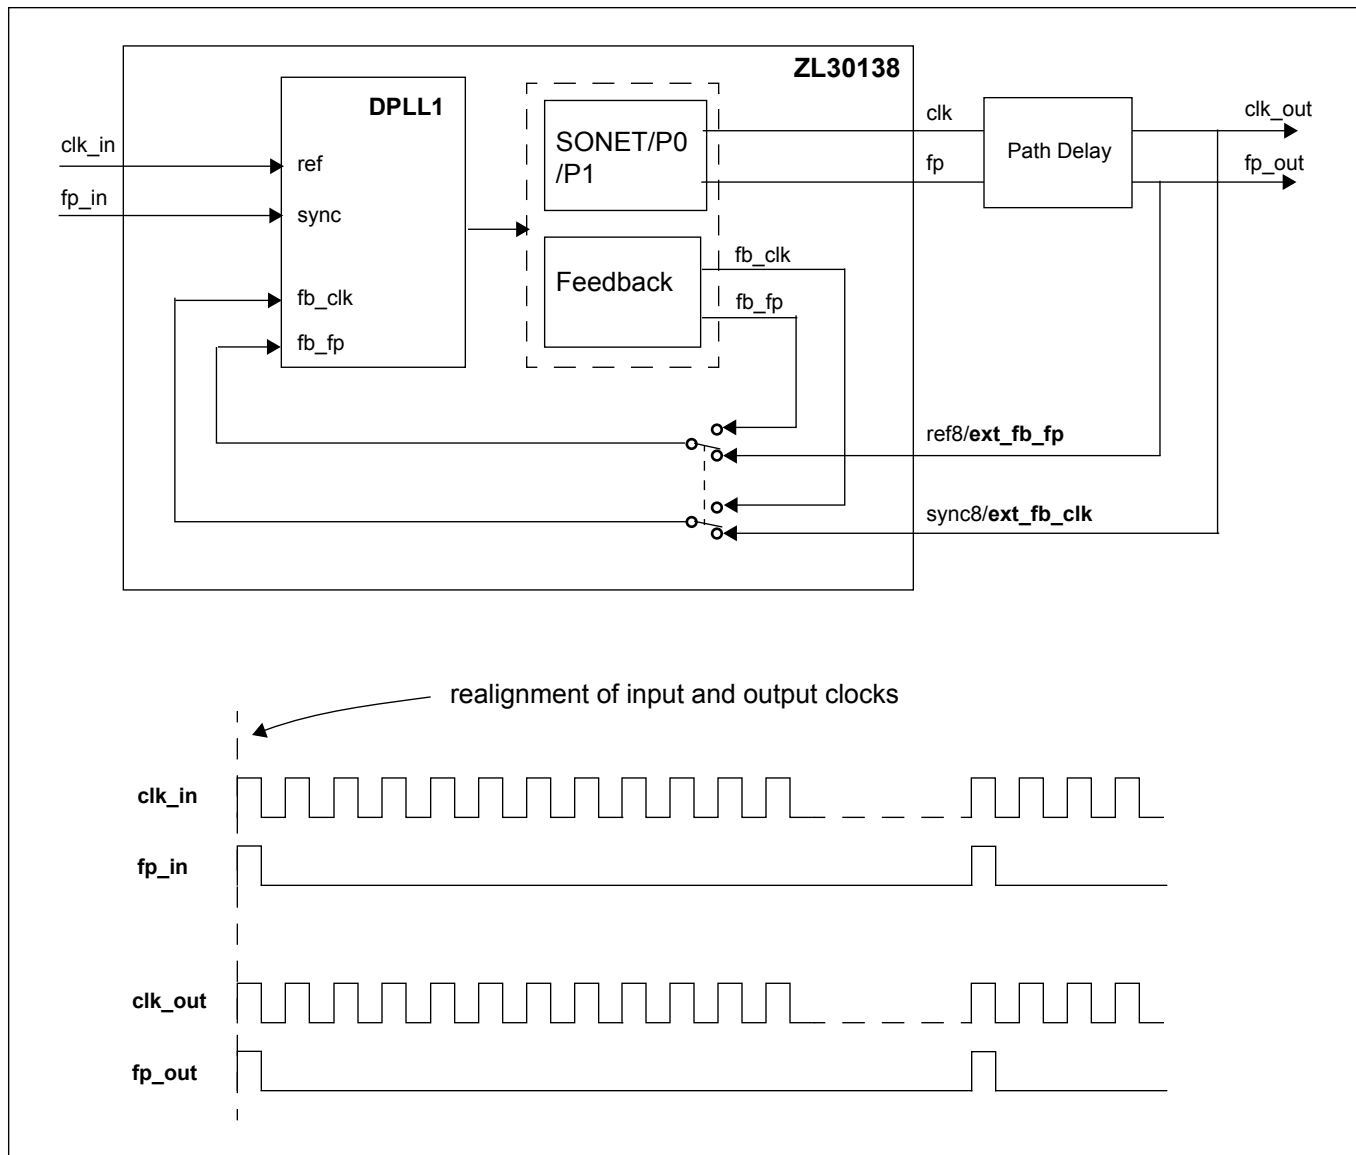

Figure 21 - External Feedback Configuration
In addition to the static delay compensation described in the “Configurable Input-to-Output and Output-to-Output Delays” section on page 41, the ZL30138 also provides the option of dynamic delay compensation to minimize path delay variation associated with external clock drivers and long PCB traces. This is accomplished by re-directing the internal DPLL1 feedback path to external pins and closing the loop externally as shown in Figure 21. The *ext_fb_clk_en* bit of the *fb_control* register (0x62) controls if the feedback path is internal or external. The *ref8/ext_fb_clk* and *ref8/extfb_fp* pins must also be configured as *ext_fb_clk/pf* pins using the *fb_ref8_sync8_ctrl* bit of the *fb_control* register (0x62).